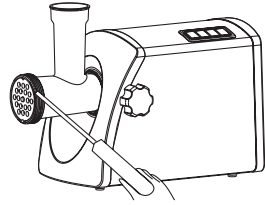

Figure 18.
4. To remove the cutting plate easily, place a screwdriver between the cutting plate and the head as illustrated and lift it up (fig. 18).